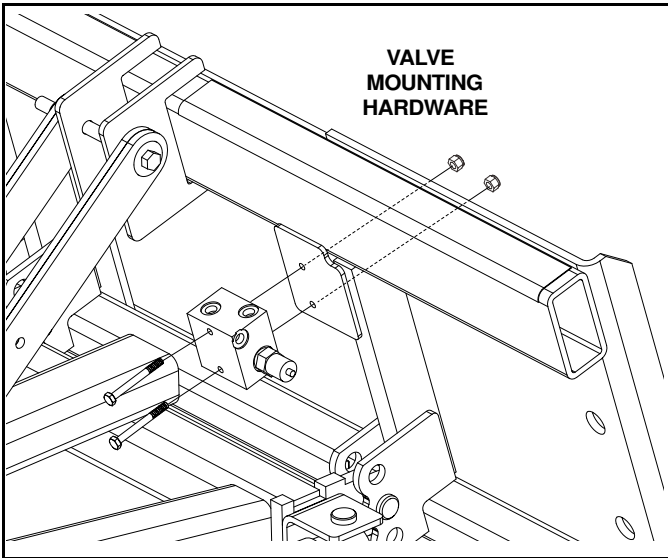

Figure 2-18
3. 29SKD and 29THDSKD: Install cross over relief block to face of Universal Adapter Plate. (See Figure 2-18)